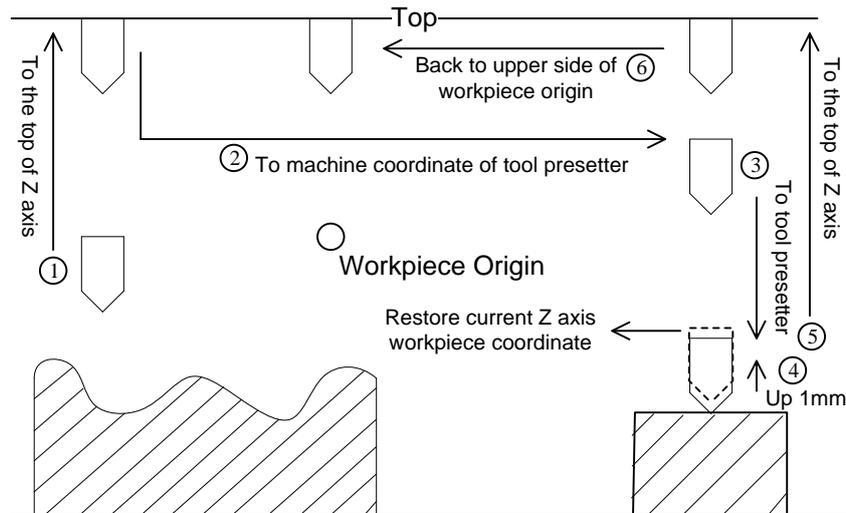

Fig. 3-34 Calibration after Tool Changed
- 4) After tool change or tool break, press “F3” to execute calibration after tool changed. The process is automatically completed by the system, shown as Fig. 3-34.